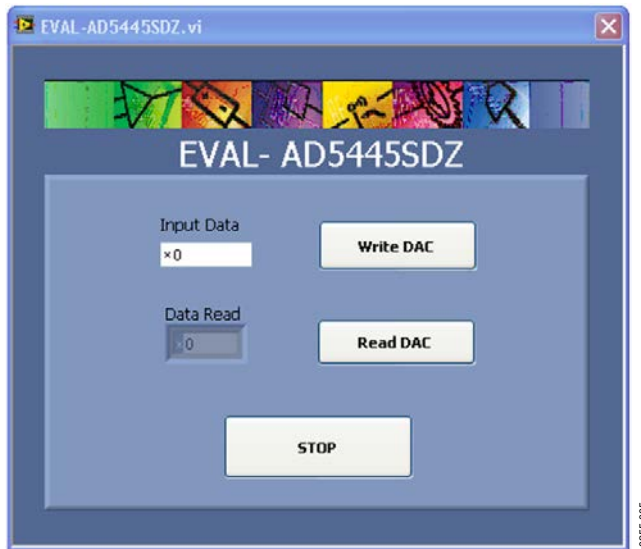

Figure 5. Evaluation Software Window
2. Run the program file from the **Analog Devices** menu. The **EVAL-AD5445SDZ** window is displayed, as shown in Figure 5.